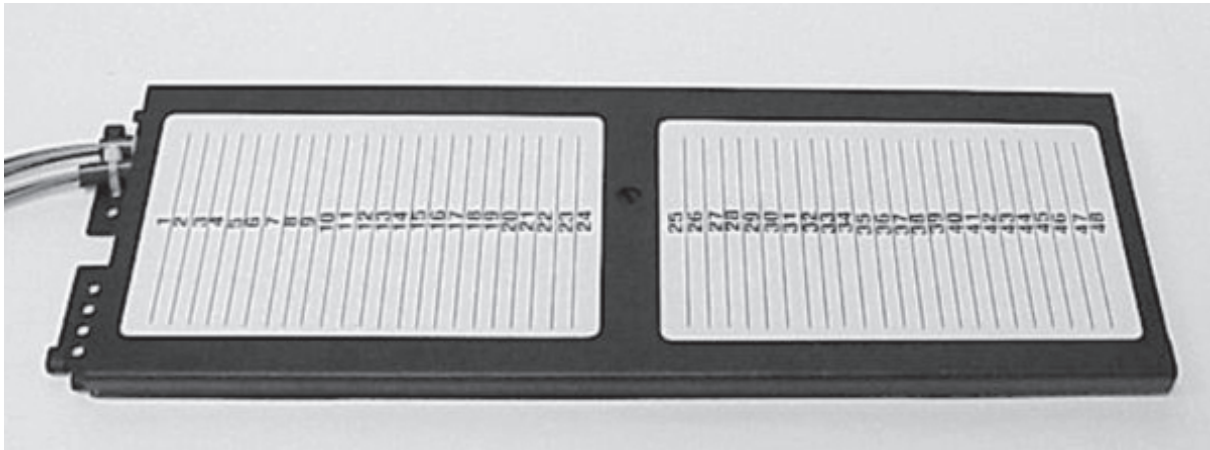

Figure 15
- If your tray has a metal cover, align the hole(s) in the cover with the hole(s) in the tray. Snap the cover onto the tray (Figure 15).